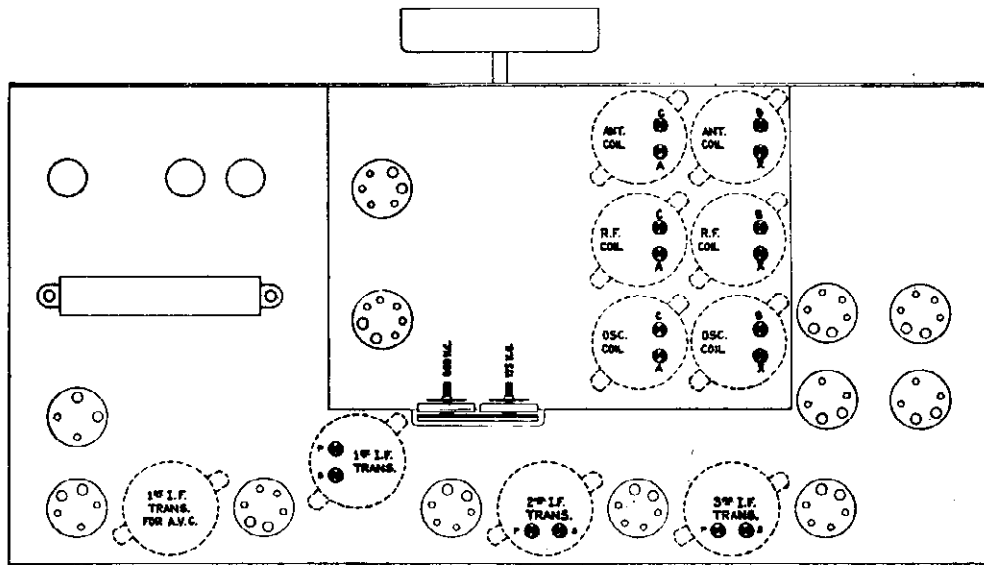

Figure 9—Location of Various Trimmer Capacitors
- (4) Connect the output of an external oscillator tuned to 460 K. C. between the first detector grid and ground. Connect the output indicator across the voice coil of the loudspeaker. Replace the A. V. C. tube in the receiver with the "dummy" RCA-76.
- (5) Place the oscillator in operation at 460 K. C.; place the receiver in operation and adjust the station selector until a point is reached (Band A) where no signals are heard and turn both the volume and sensitivity controls to their maximum position. Reduce the oscillator input until a slight indication is obtained in the output indicator.
- (6) Refer to Figure 9. Adjust each trimmer of the I. F. tuning capacitors until a maximum output is obtained. Go over the adjustments a second time.
(a) The oscillator series capacitor, marked 600 K. C., Figure 9, should be set at about the center of its range.
(c) Shift the external oscillator to 600 K. C. Tune in the 600 K. C. signal irrespective of scale calibration and adjust the series trimmer, marked 600 K. C., on Figure 9, for maximum output, at the same time rocking the variable tuning capacitor. Then readjust it 1720 K. C. as described in (b).
Figure 9 shows the location of the trimmers for each band. Care must be exercised to only adjust the trimmers in the band under test.
(a) The oscillator series capacitor, marked 175 K. C., Figure 9, is first tightened to near its maximum capacity position (screwed "in.")
(c) Shift the external oscillator to 175 K. C. Tune in the 175 K. C. signal irrespective of scale calibration and adjust the series trimmer marked 175 K. C., on Figure 9, for maximum output, at the same time rocking the variable tuning capacitor. Then readjust at 410 K. C. as described in (b).